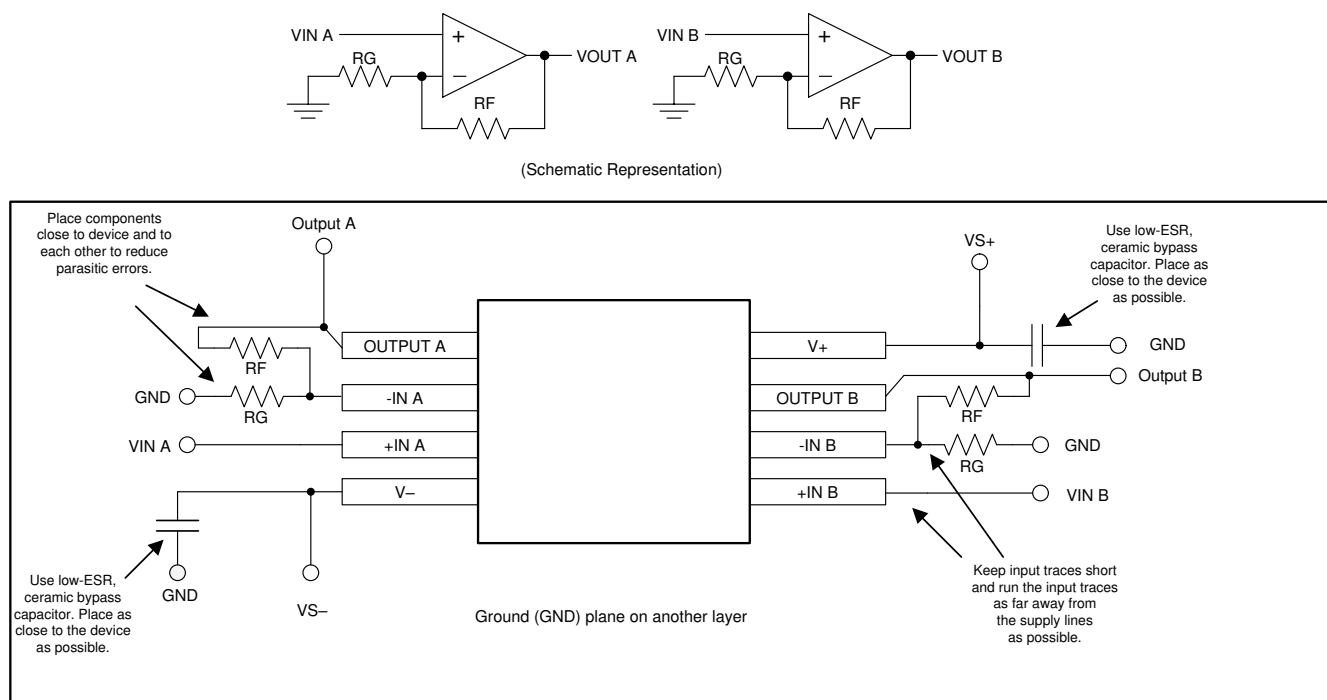

图 8-8. Operational Amplifier Board Layout for Noninverting Configuration
- Place the external components as close to the device as possible. As shown in 图 8-8, keeping  $R_F$  and  $R_G$  close to the inverting input minimizes parasitic capacitance.